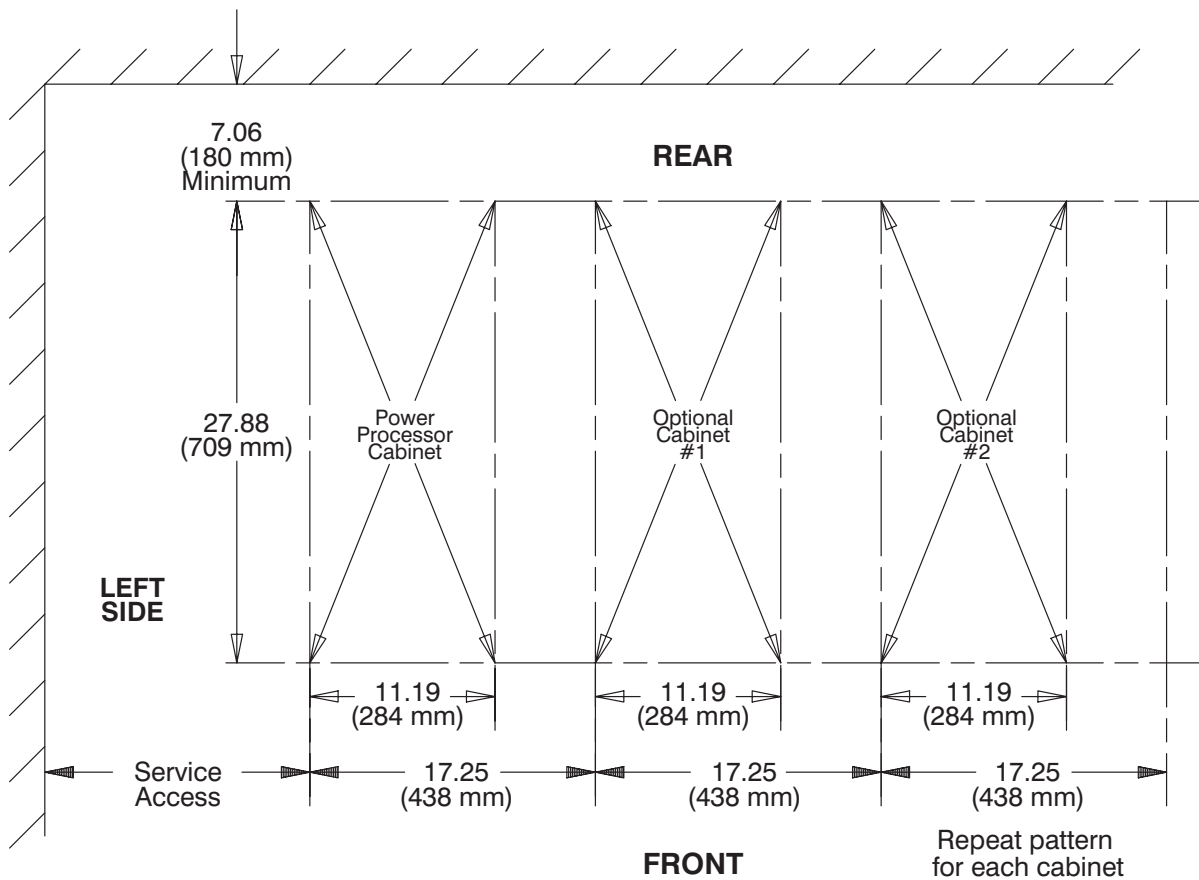

Figure 6. Seismic Installation Mounting Pattern
4. A seismic installation of the UPS requires that the mounting bars be bolted to the floor. See Figure 6 for a detailed drill and mounting pattern.